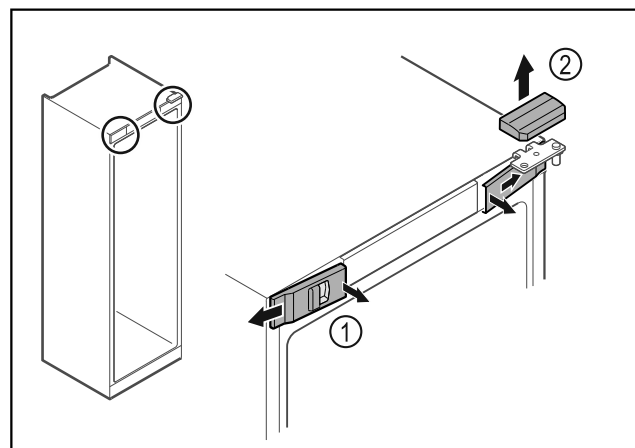

Fig. 7*
- ▶ Unlatch the front covers Fig. 7 (1) on the inside and remove them sideways.*
- ▶ Lift off the upper cover Fig. 7 (2)*